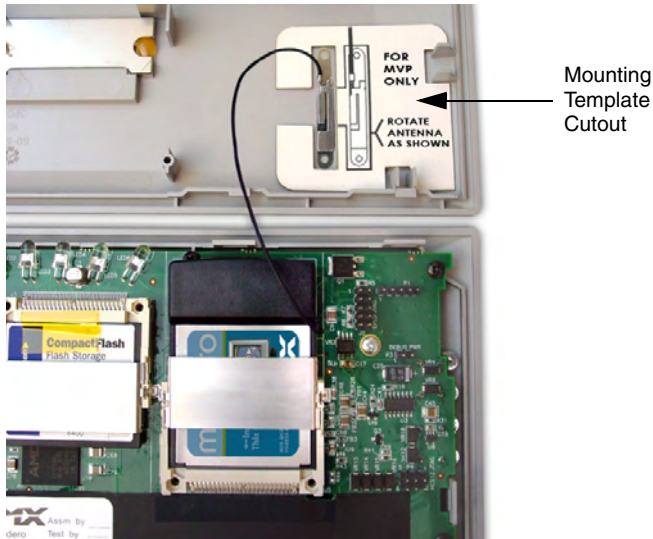

FIG. 4 Adhering the antenna plate to the MVP outer housing
11. Locate the T-shaped opening on the left of the cutout and make sure the antenna wire is located along the left side of the cutout (FIG. 4).